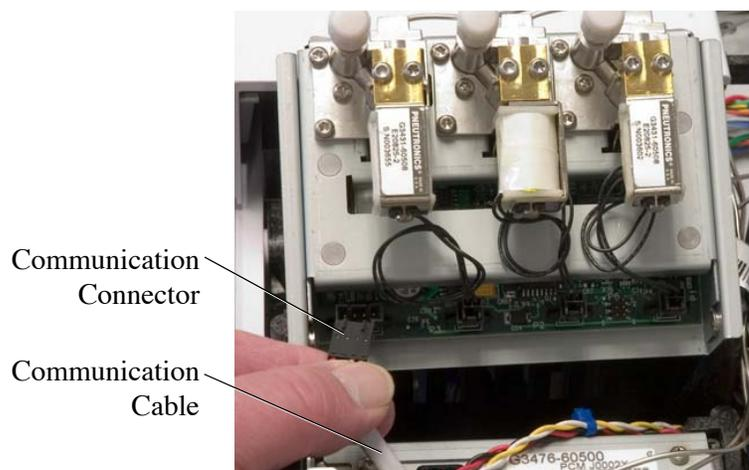

Figure 3.10. Attaching the communication cable to the EPC module
3. Attach the communication cable to the EPC module (Figure 3.10).